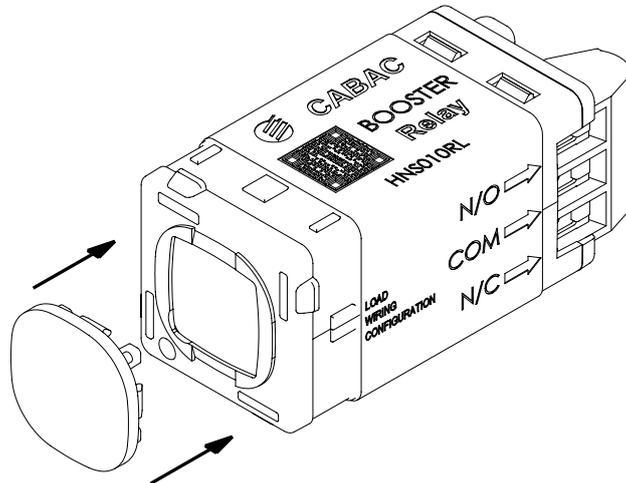

Figure 3: Front cover assembly.
- Fit the front cover to the front of the HNS010RL as shown in Figure 3.